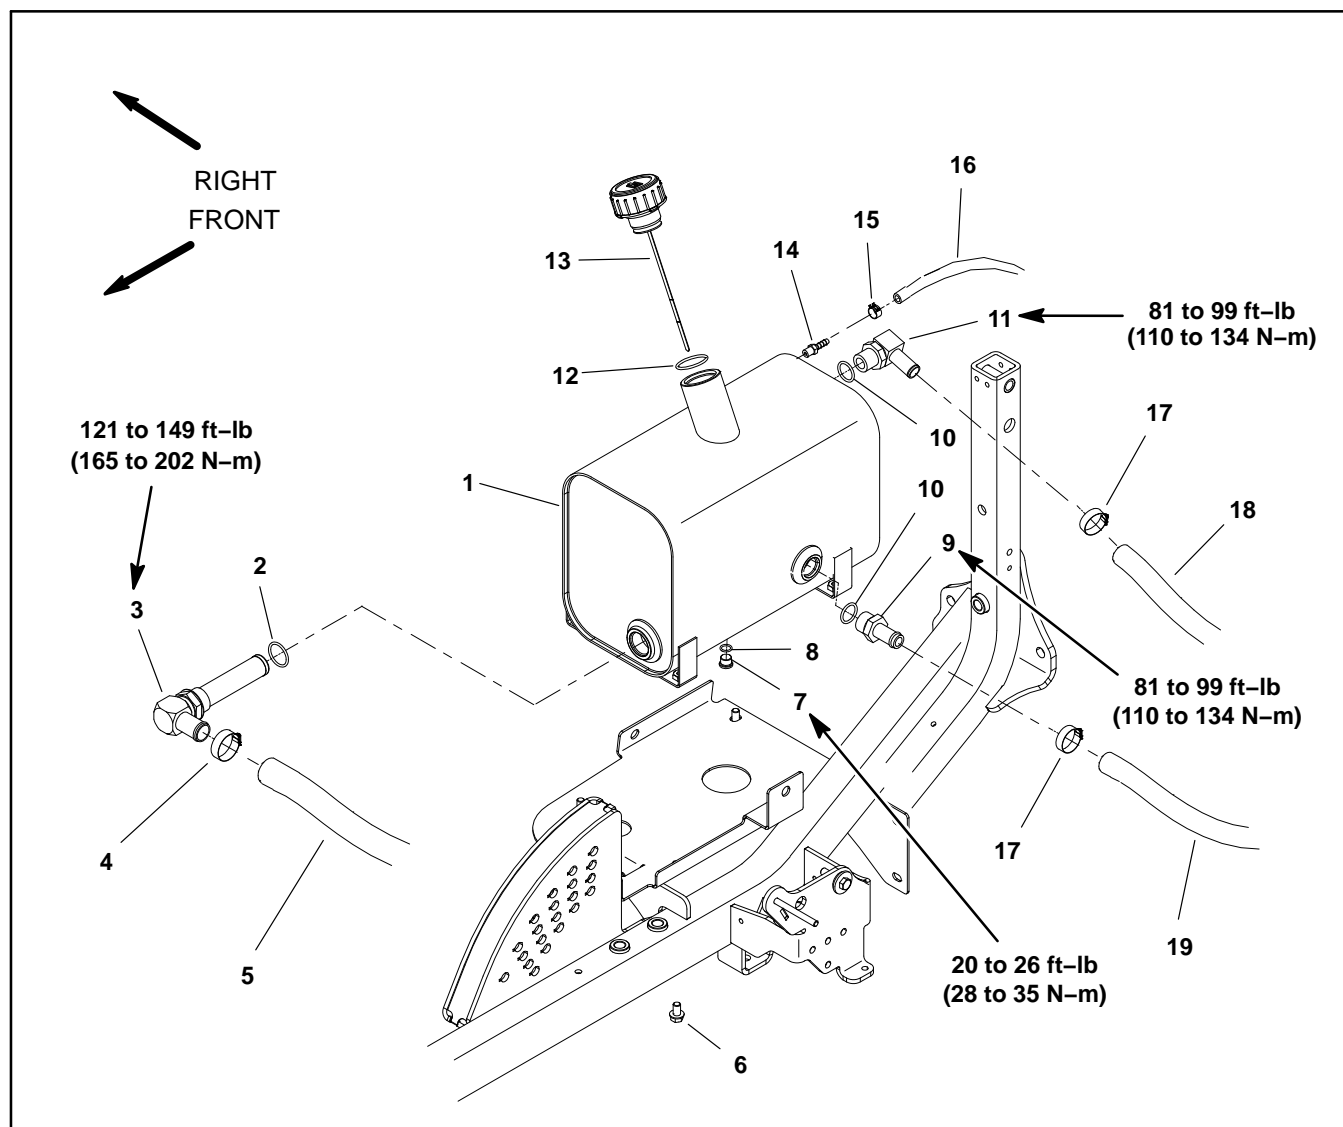
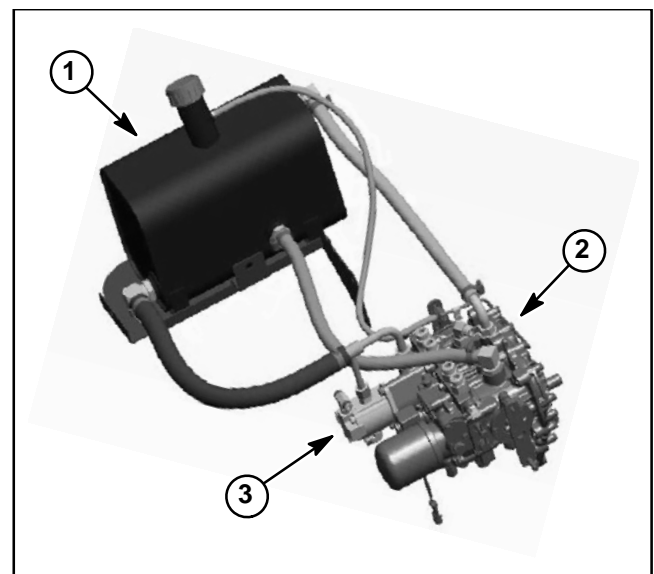

Figure 46
Figure 47
Hydraulic Tank Removal (Fig. 46)
6. Label all hydraulic hoses and fittings for assembly purposes. Remove hydraulic hoses from fittings on hydraulic tank (Fig. 47). Drain hoses into a suitable container.
8. Remove four (4) flange head screws that secure hydraulic tank to frame.
10. As needed, remove fittings from hydraulic tank using Figure 46 as a guide. Discard and replace any removed O-rings.
Hydraulic Tank Inspection (Fig. 46)
Hydraulic Tank Installation (Fig. 46)
1. Attach removed suction strainer and fittings with new, lubricated O-rings to hydraulic tank using Figure 46 as a guide (see Hydraulic Fitting Installation in the General Information section of this chapter). Torque fittings to values identified in Figure 46.
2. Position hydraulic tank to machine. Secure tank to frame with four (4) flange head screws.
4. Using labels placed during removal, attach hydraulic hoses to fittings on hydraulic tank (Fig. 47) (see Hydraulic Hose and Tube Installation in the General Information section of this chapter).